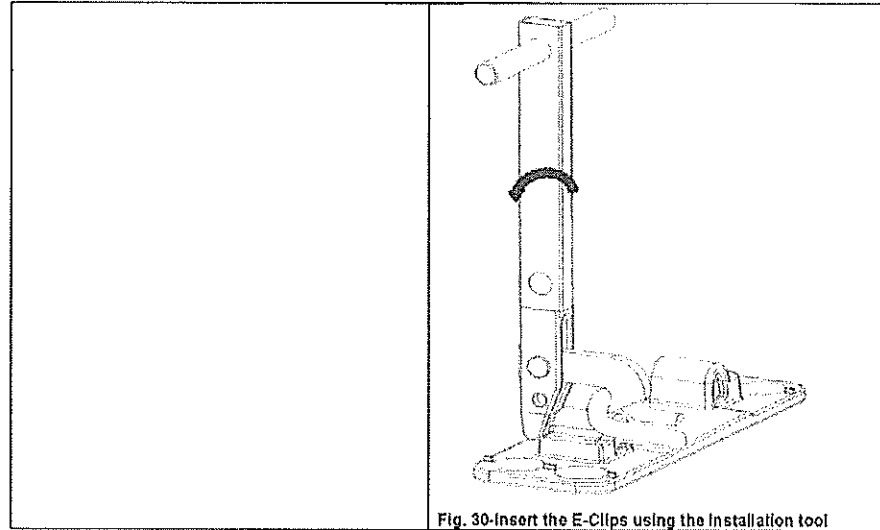

Fig. 30-Insert the E-Clips using the Installation tool
2. Place the hook on the outside of the front arch of the clip, Fig. 30.